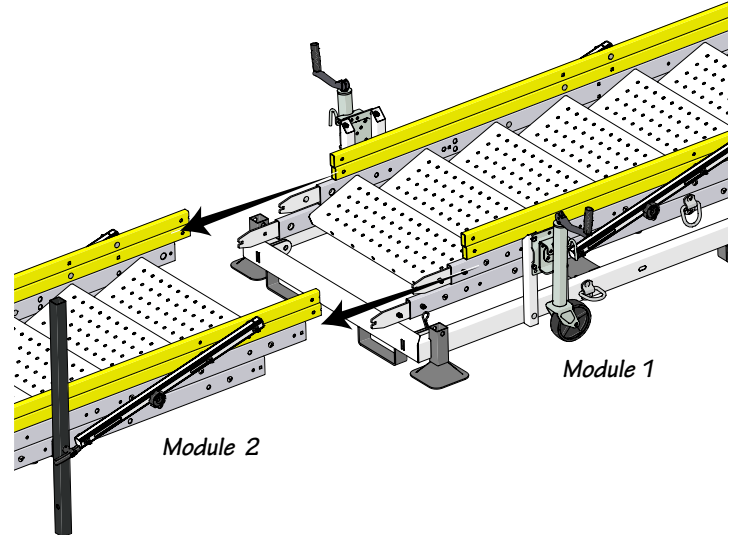

Fig. 7-2
- With one worker on each side of the pallet module 1, align the splice plates to the module 2 step side rails. As shown in Fig. 7-2.